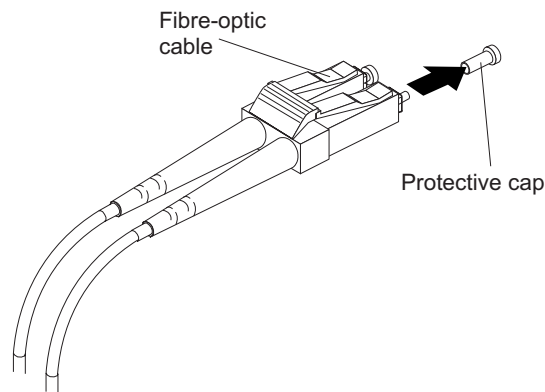

Figure 27. Removing fiber-optic cable protective caps
3. Remove the two protective caps from one end of the LC-LC cable, as shown in Figure 27. Save the protective caps for future use.